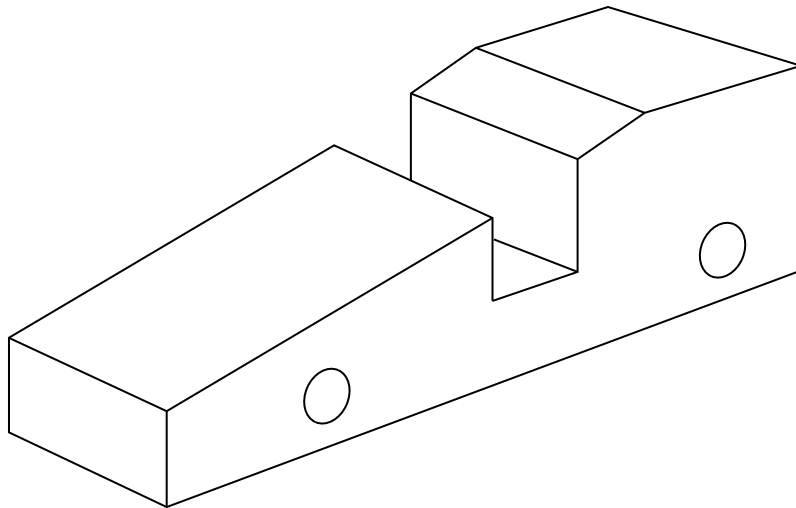

Fig. 3
2 The body of a toy car is shown in Fig. 3.
- (a) Apply thick and thin line technique to Fig. 3 to enhance the appearance of the body of the toy car. [3]